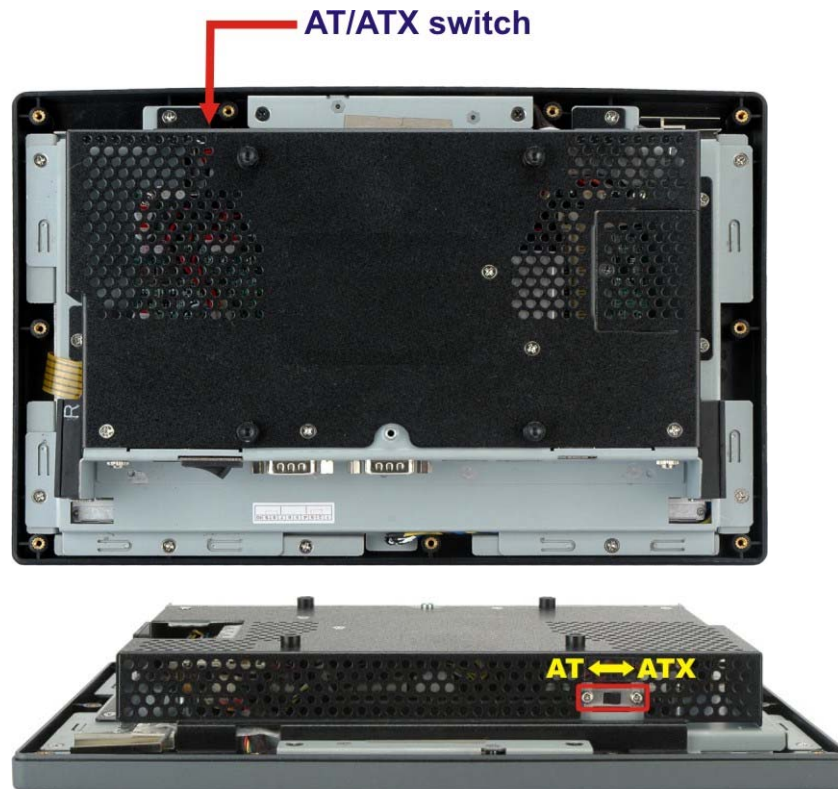

Figure 2-4: AT/ATX Switch Location
AT and ATX power modes can both be used on the AFL-W10A-N270. The selection is made through an AT/ATX switch on the top edge of the inner aluminum cover (**Figure 2-4**). To select AT mode or ATX mode, follow the steps below.
Step 1: Locate the AT/ATX switch on the top edge of the aluminum cover (**Figure 2-4**).